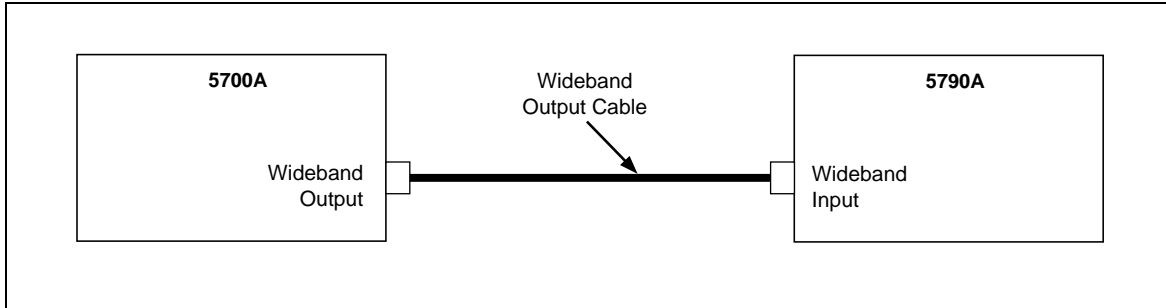

Figure 3-14. Wideband Flatness Test Setup
1. Connect the equipment as shown in Figure 3-14. Note that the 5700A wideband cable is connected to the 5790A directly, the termination is not used.